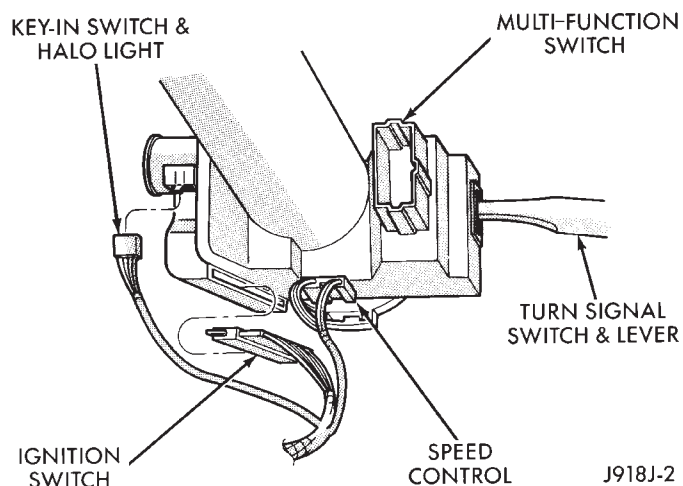

Fig. 50 Key-In-Switch and Halo Lamp Connector
(5) Gently pull switch away from column. Release connector locks on 7-terminal wiring connector, then remove connector from ignition switch.
(6) Release connector lock on 4-terminal connector, then remove connector from ignition switch (Fig. 50).
(7) To remove key cylinder from ignition switch: